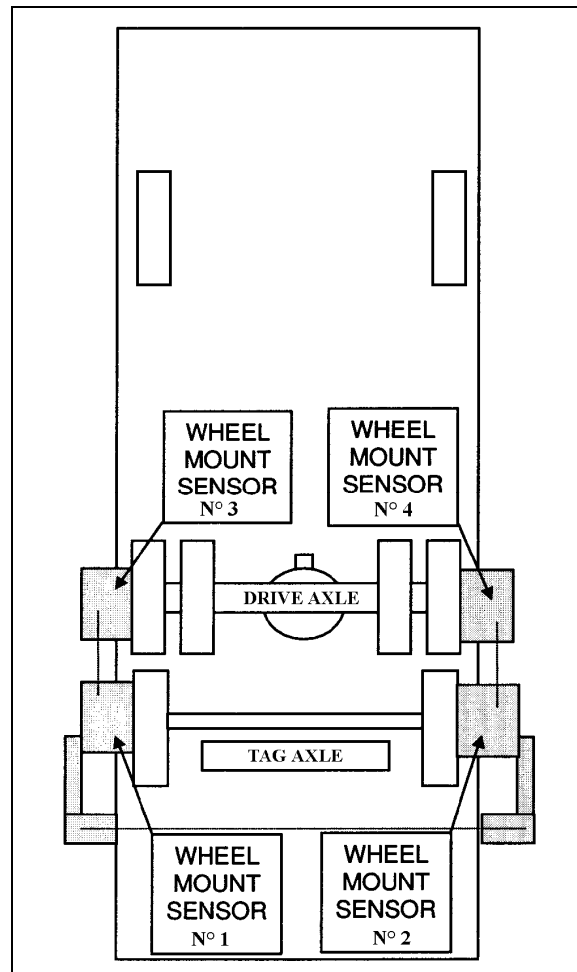

FIGURE 7: TAG AXLE ALIGNMENT 11026
See reference numbers on wheel mount sensors (fig.7).
- With the system installed as in figure 7, adjust drive axle according to specifications' chart below.
- Remove and reinstall all wheel mount sensors on the drive and tag axles (fig. 7);
Reinstall wheel mount sensors as shown in figure 7.